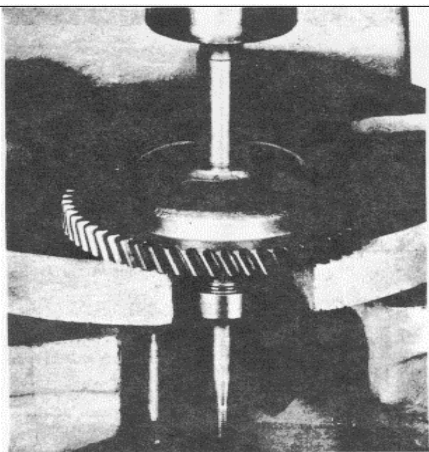

Fig. 4 Pressing Shaft Out of Gear
- (4) Use puller J 24420 to remove the impeller.
- (5) Press the shaft, bearings and pump gear assembly out of the pump body.
- (6) Place the gear on the bed of an arbor press with the shaft extending downward, then place a short piece of .625" diameter bar stock between the shaft and the ram of the press and press the shaft out of the gear as shown in Fig. 4.
- (7) Support the shaft assembly on the inner race of the larger bearing with the threaded end down. Place flat stock between the ram of the press and the shaft and press the pump shaft out of the large bearing.